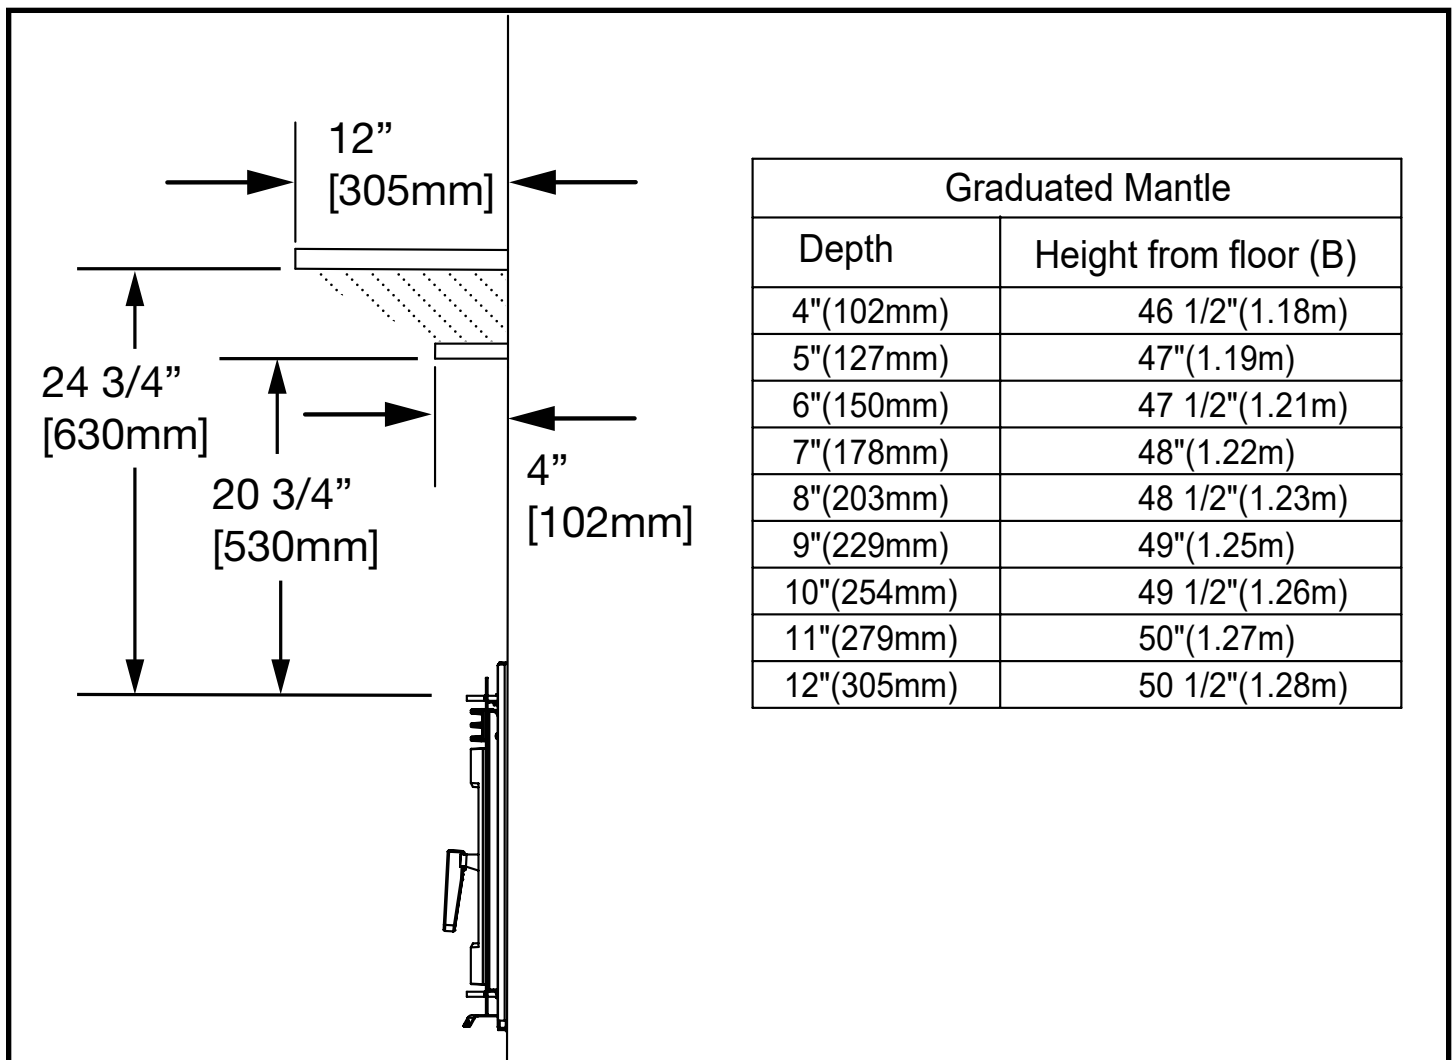

Figure 24: FP16 LE Mantle Clearance Chart.
- Above the Heat Exchanger's Air Deflector up to a minimum of "Figure 24: FP16 LE Mantle Clearnace Chart." on page 27, depending on depth.